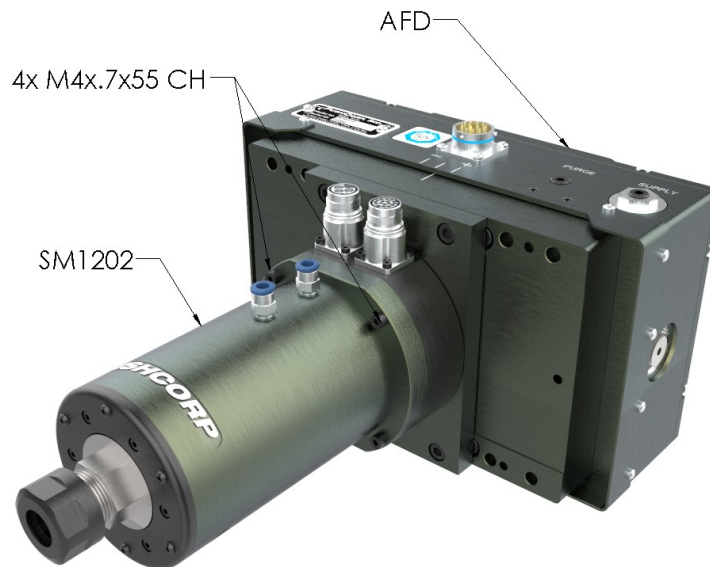

Figure 2: Perpendicular Mount
To attach the motor to an AFD in a perpendicular-axis configuration, position the motor and the required perpendicular mounting plate over the carriage as shown in Figure 2. Then mount the adapter plate to the carriage with four (4) M6x1x20 cap head screws. The motor can then be mounted to the adapter plate with four (4) M4x.7x55 cap head screws. Tighten the fasteners to the torque specified in Section 4.0.